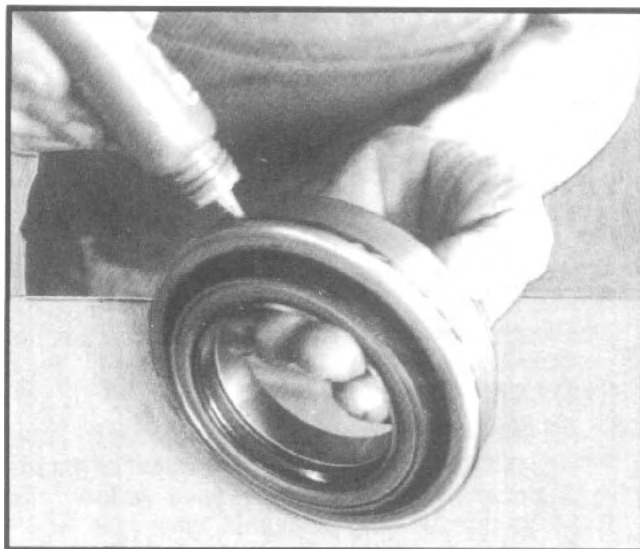
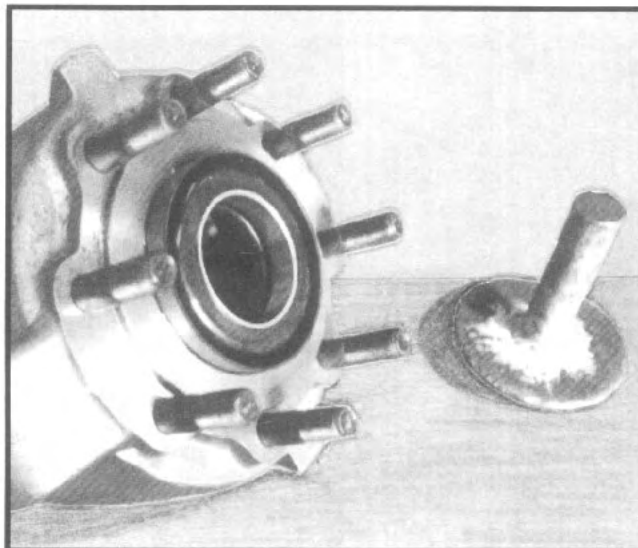

Fig. 28
Fig. 29
2. Apply liquid sealant or gasket cement to the outer edge of the inner drive yoke seal assembly. (See fig. 28). Press inner drive yoke seal assembly into suspension yoke with an installation tool; (See fig. 29 and 30). Remove excess sealant.